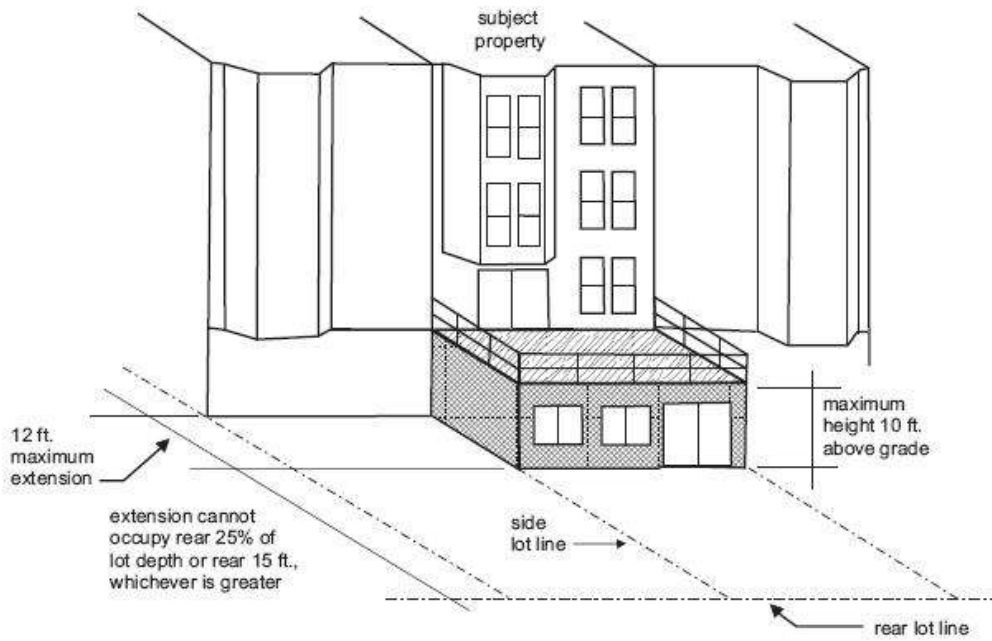
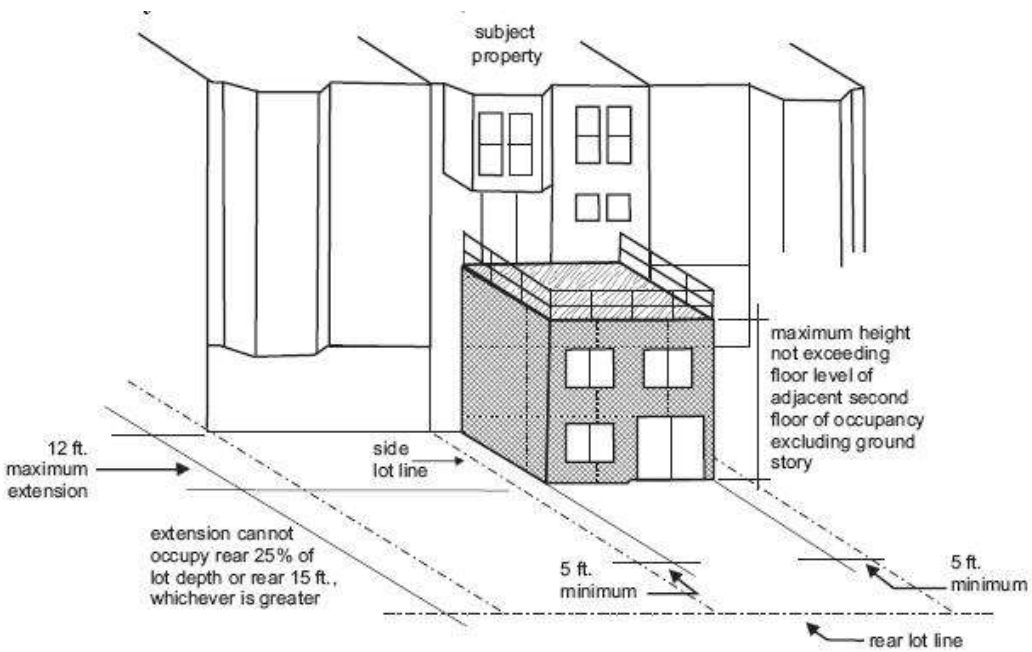

FIGURE 1.
FIGURE 2.
Section 136(c)(25) applies to obstructions within the required rear yard setback, which this project does not propose. The client’s proposed deck is supported by posts, less than 10 feet above grade, and within the “buildable area” of their lot. Furthermore, appellant’s Architect has suggested applying 5-foot setbacks, similar to [figure 2] on page 2 of this letter. This is an incorrect translation of the project, as the proposed deck will be located directly above ground level and not above 2-stories. If Planning Section 136(c)(25) is applied to the client’s proposed deck, [figure 1] illustrates a code compliant project like the client’s deck. The only difference being the example used in [figure 1], shows a 12’ foot maximum extension into the required rear yard, whereas the client’s project is only proposing a 10’ depth into the allowable building area of their lot.